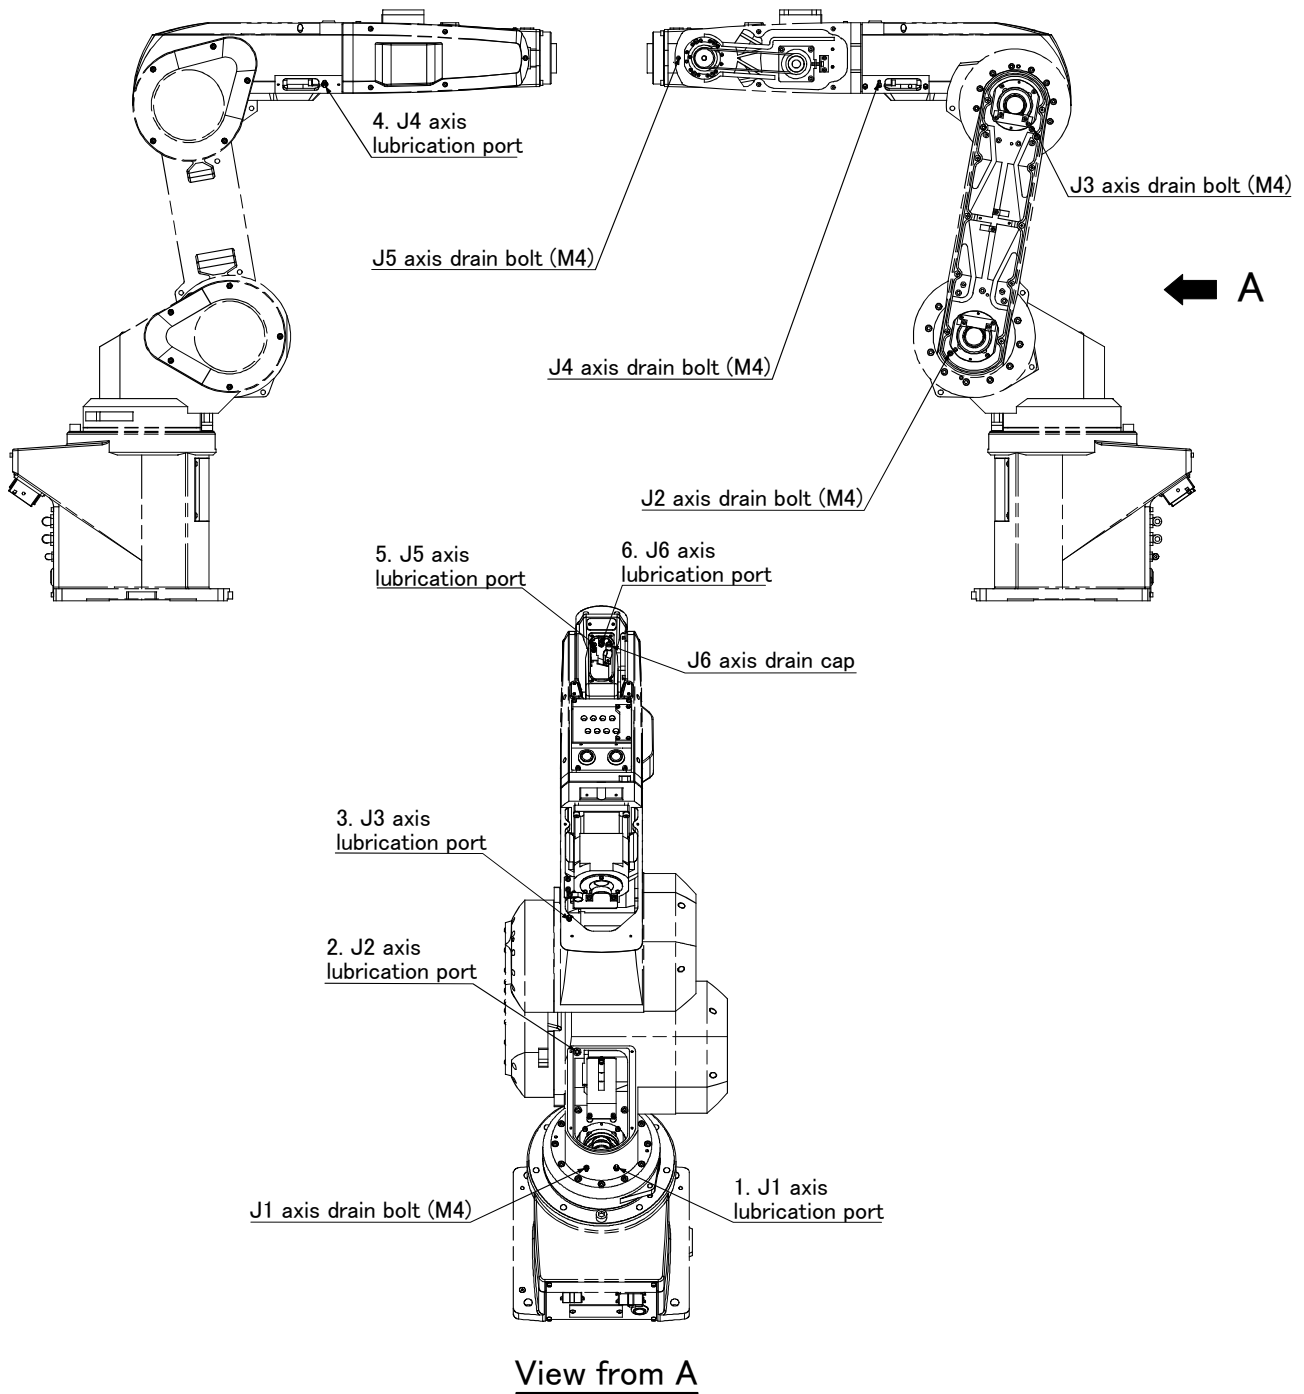

Fig.5-6 : Lubrication positions
The grease nipple position is shown in . The lubrication specifications for each place are shown in Fig. 5-6 [Caution]
- The numbers in the correspond to the supply positions in Fig. 5-6.
(2) Lubrication method
- 1) Set the robot to the posture shown in Fig. 5-6.